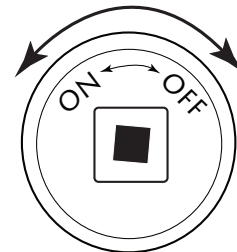

Fig. 8 Key Valve Face
1. Insert key into shut-off valve and secure into square end (See Figs. 8 & 9).